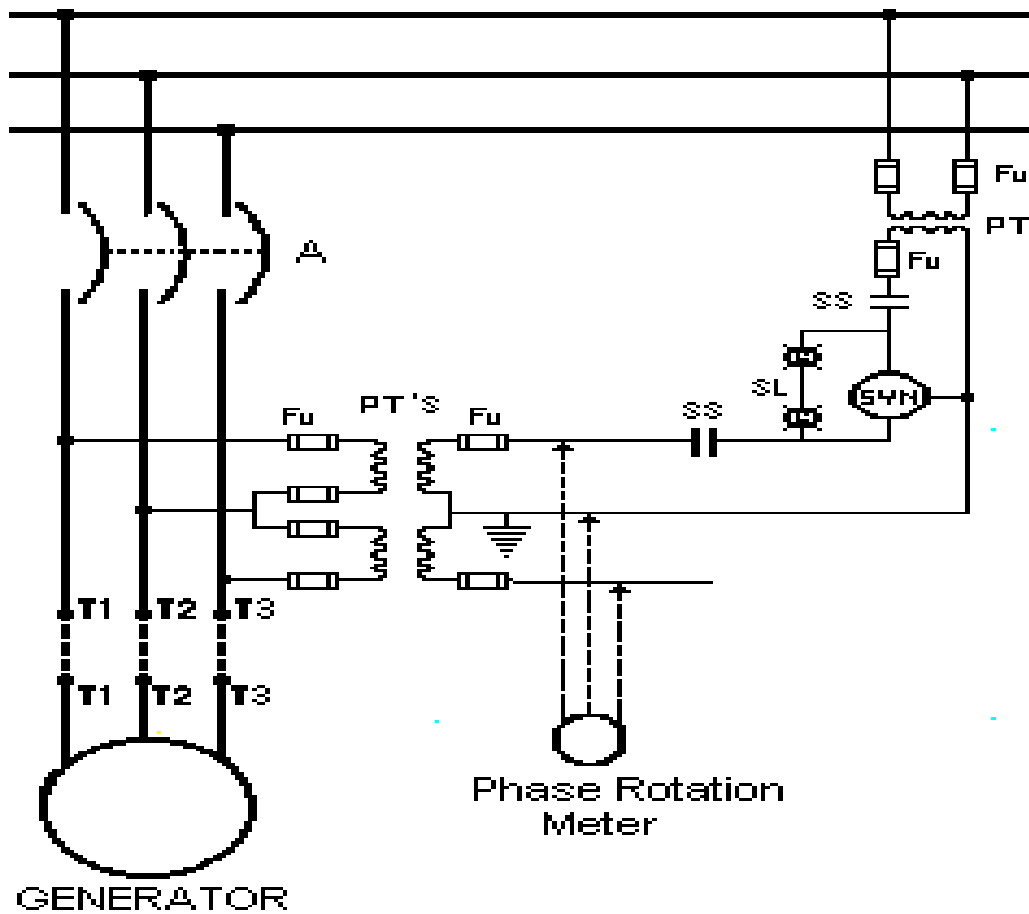

Figure I-1. Phase Rotation Test
Observe that the generator phase rotation matches the bus phase rotation. The following procedure may be used to verify that the phase rotation is correct and that the synchroscope is functioning correctly. Refer to Figure I-1 for illustration.
- b. Apply rated voltage to bus and close breaker labeled A on Figure I-1.